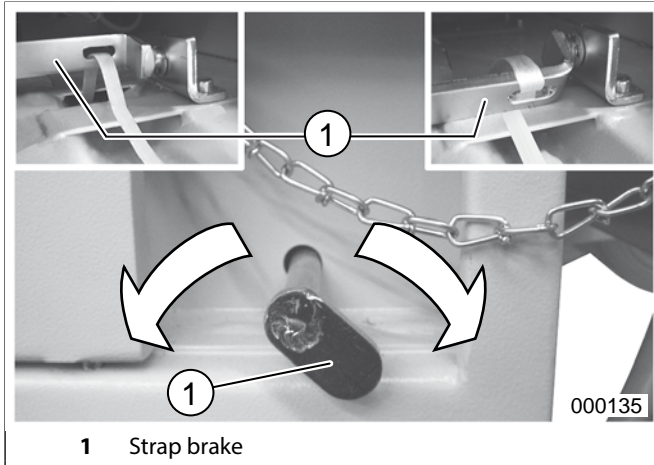

fig. 15 Strap brake
The strap brake (fig. 15) must be closed (move lever to right).
2. Open the strap brake (fig. 15/1).
4. Close the strap brake (fig. 15).
3. Open the strap brake (fig. 15).